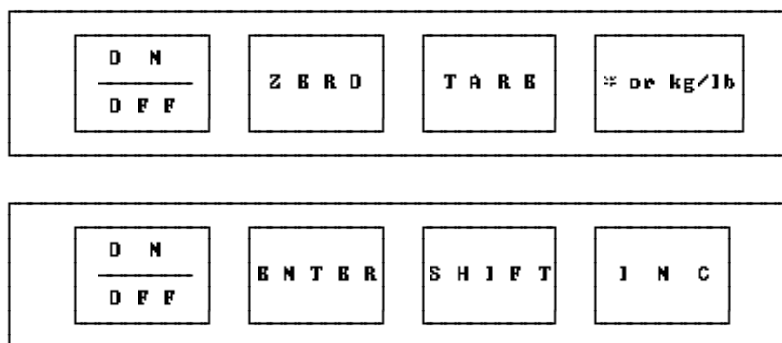

Fig. 1
A.1.1 In this mode, the function of three keys are converted as below Fig. 1.